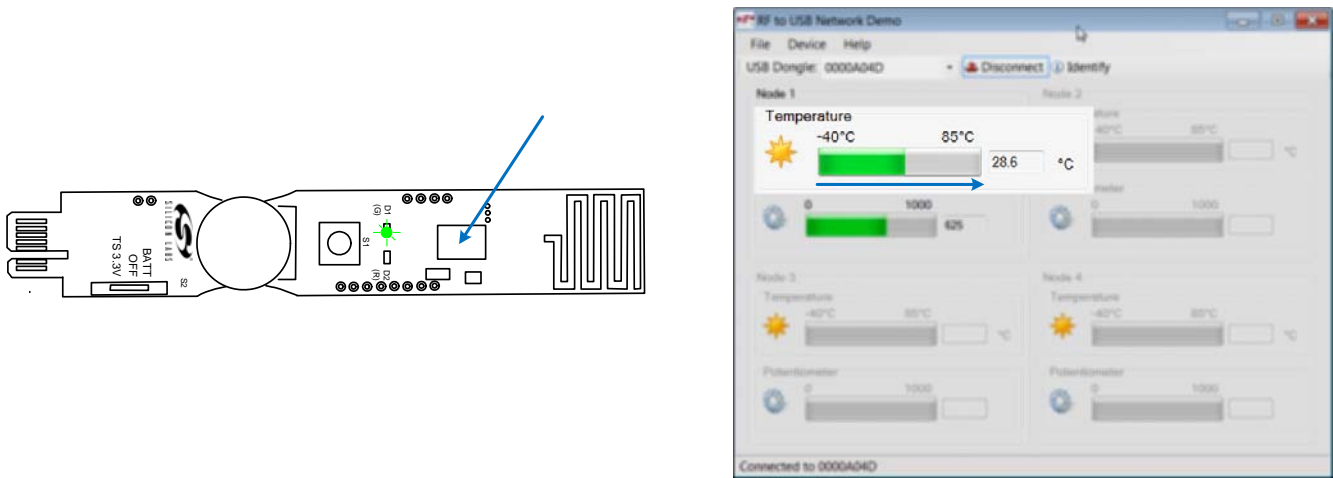

Figure 9. RF USB Node Temperature Changes
4. Touch the Si1014 package to warm the internal temperature sensor as shown in Figure 9.